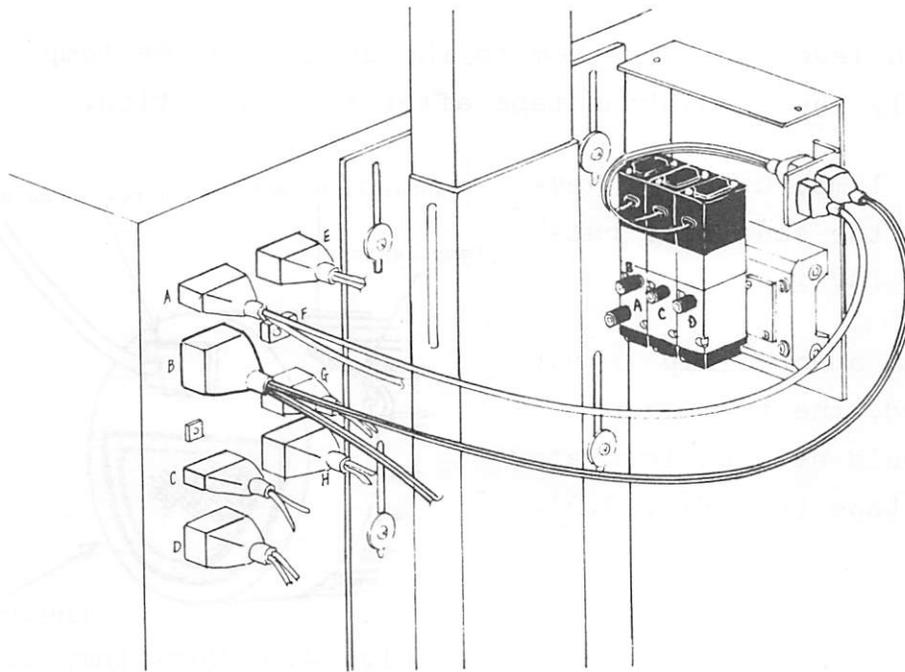

Fig. 4.7 Connection of machine head and control box
(See Fig.4.7 and 4.8)
(See Fig.4.7)
- (3) Of the two cables connected to the connector A, insert and fix the 2-pin plug cable into the solenoid valve installation plate. (See Fig.4.7)
- (4) Secure the leads in position with a lead clamp (tie lap) so that they cannot come into contact with the belt. The cord of lead clamp can be released by levering it with a screwdriver as shown in Fig. 4.7.